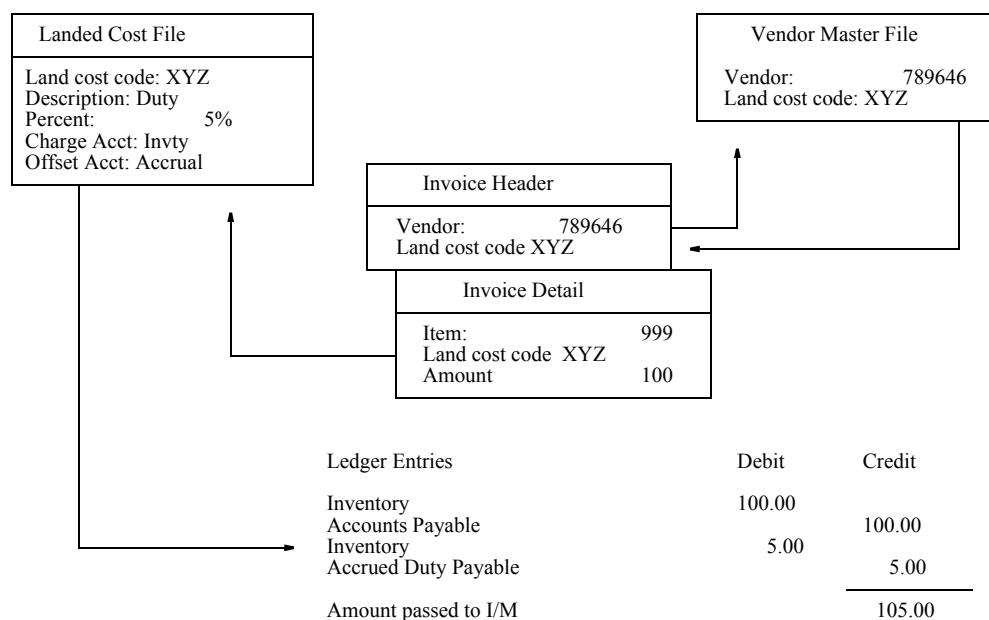

Figure 4-1. Landed cost accrual processing
- Figure 4-1 summarizes how landed cost accrual works.
- When the invoice post program processes an invoice that has a landed cost code, it uses the data in the Landed Cost file to accrue the importation costs as illustrated in Figure 4-1. The amounts passed to GL, IM, and PC&C in these cases reflect both the invoice amount and any accruals. For example, suppose you have an invoice item for 100 subject to 5% duty and 2% brokerage. The cost of the item, for GL, IM, and PC&C purposes, is 107 (100 + 5 + 2) and the entries to GL are: